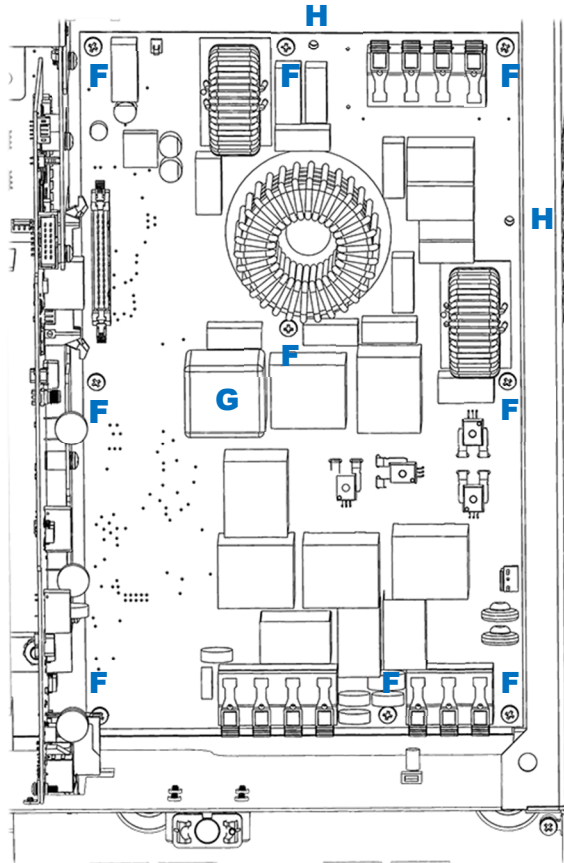

Figure 43 Dismounting AC Board
- Using a #2 Phillips screwdriver, remove 9 machine screws **F** that secure the AC board in place. See Figure 43.